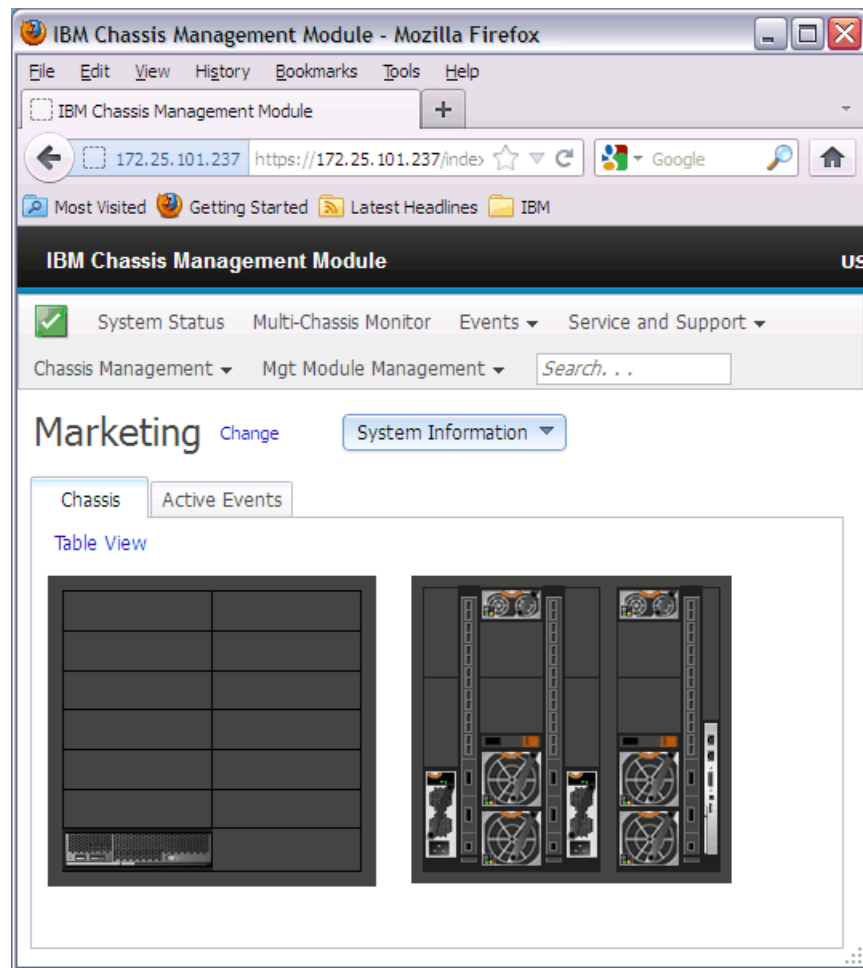

Figure 6-9 CMM GUI
2. After successful login, CMM GUI displays, as shown in Figure 6-9.